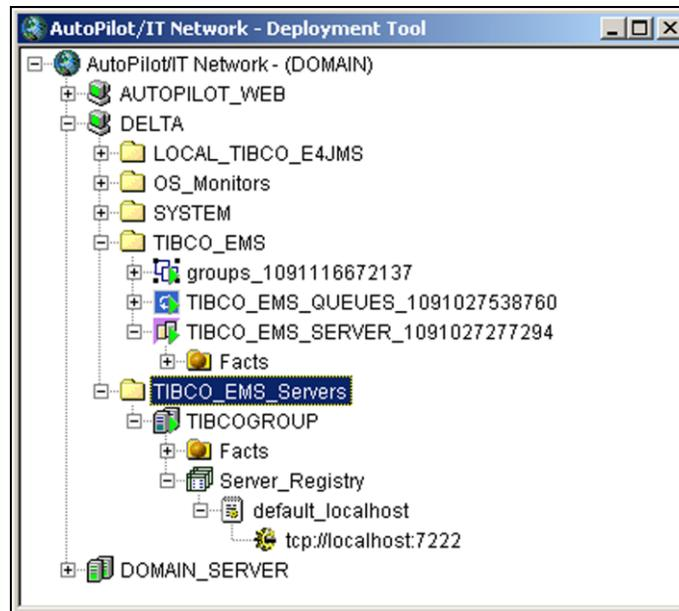

Figure 4-14. TIBCO EMS Servers Default Installation
- **Server Registry:** A folder used to register TIBCO EMS servers to the group. The default settings for one server are shown in Figure 4-14.